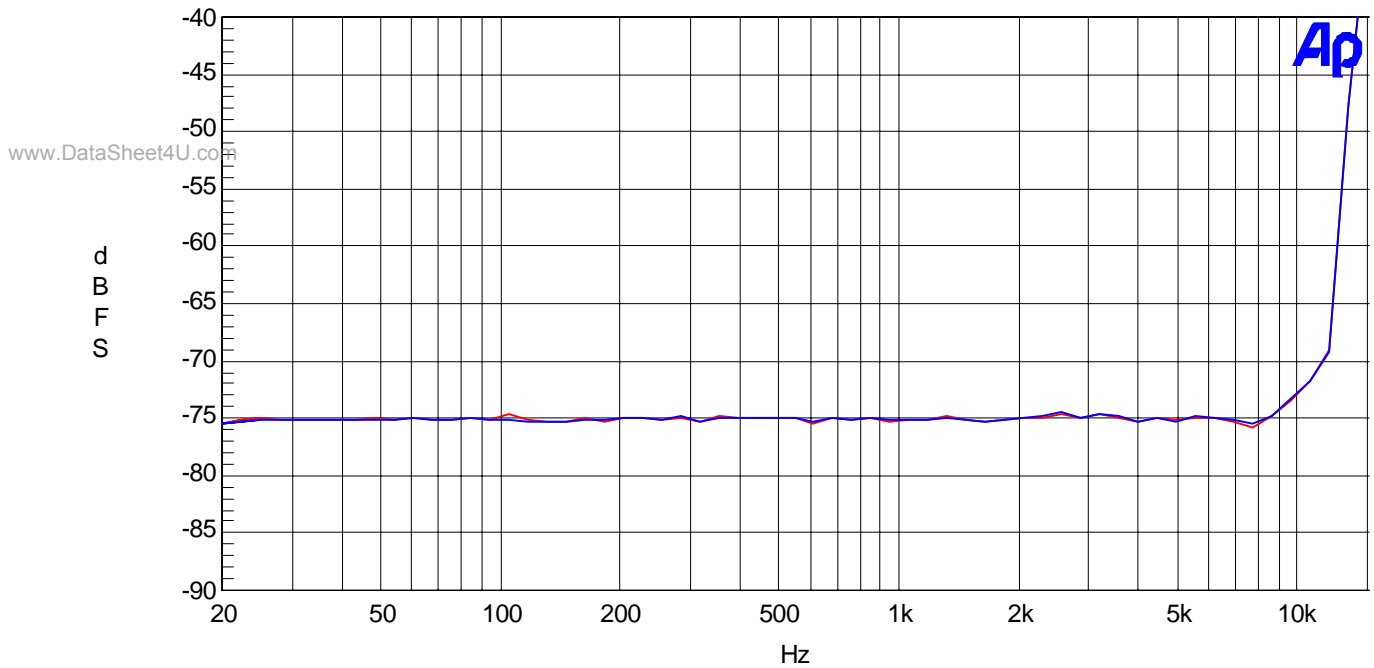

Figure 2. THD+N vs. Input Frequency (-15dB)
- Figure 2. THD+N vs. Input Frequency (-15dB)